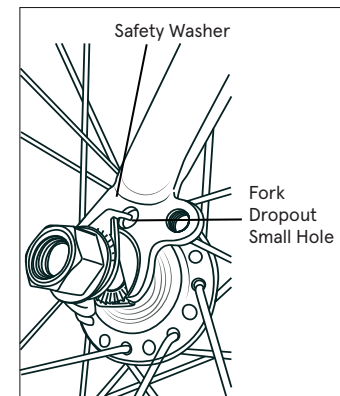

Fig. 7
3. Loosen the axle nuts on the front wheel. Lift the front of the bike and insert the front wheel into the fork dropouts (a helper can make this easier). Insert the tab of the safety washers into the small holes on the outside of the fork dropouts (some suspension forks to not have a hole. For these make sure the nut is fully seated in the dropout reses (**Fig. 7**).